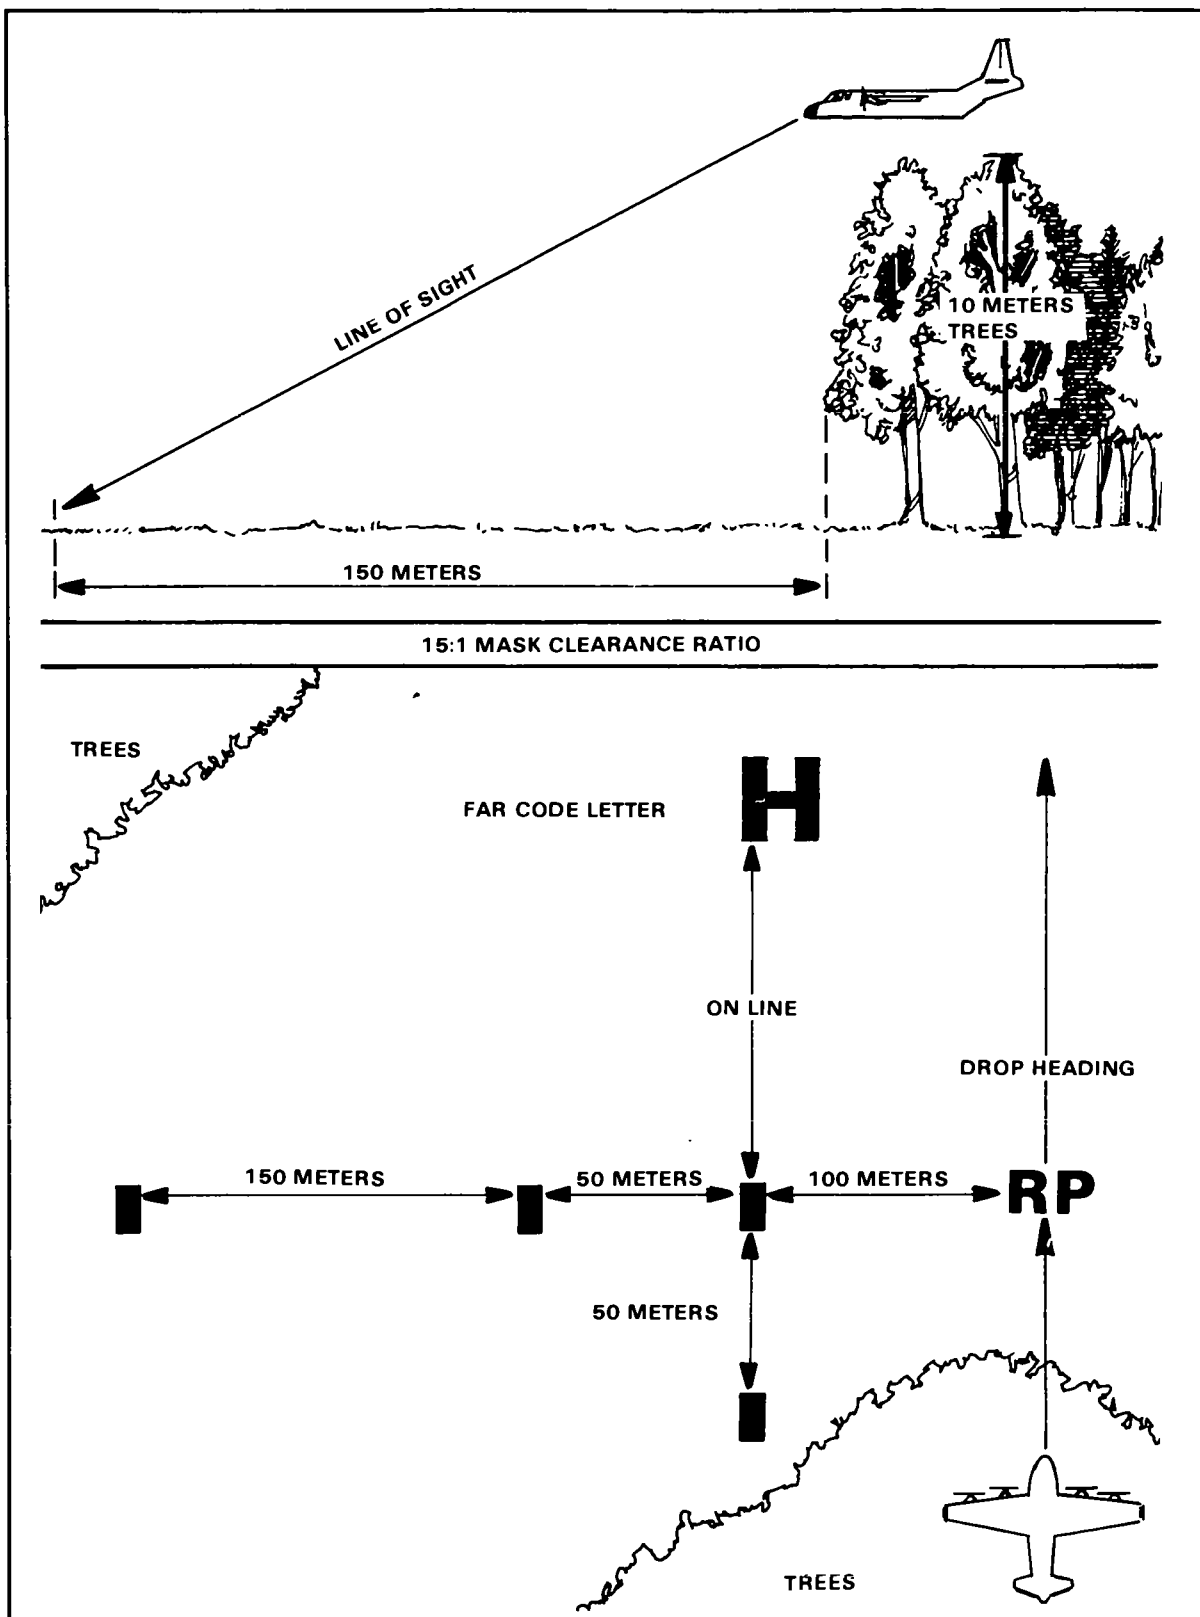

Figure 16-4. The 15:1 mask clearance ratio.
placed on the departure end of the DZ (Figure 16-4). This far marking is on line with the corner (A) panel to allow the aircrew to begin alignment on the release point until the inverted L comes into view. If a code letter is used, it can be used to distinguish the DZ from other DZs in the area.